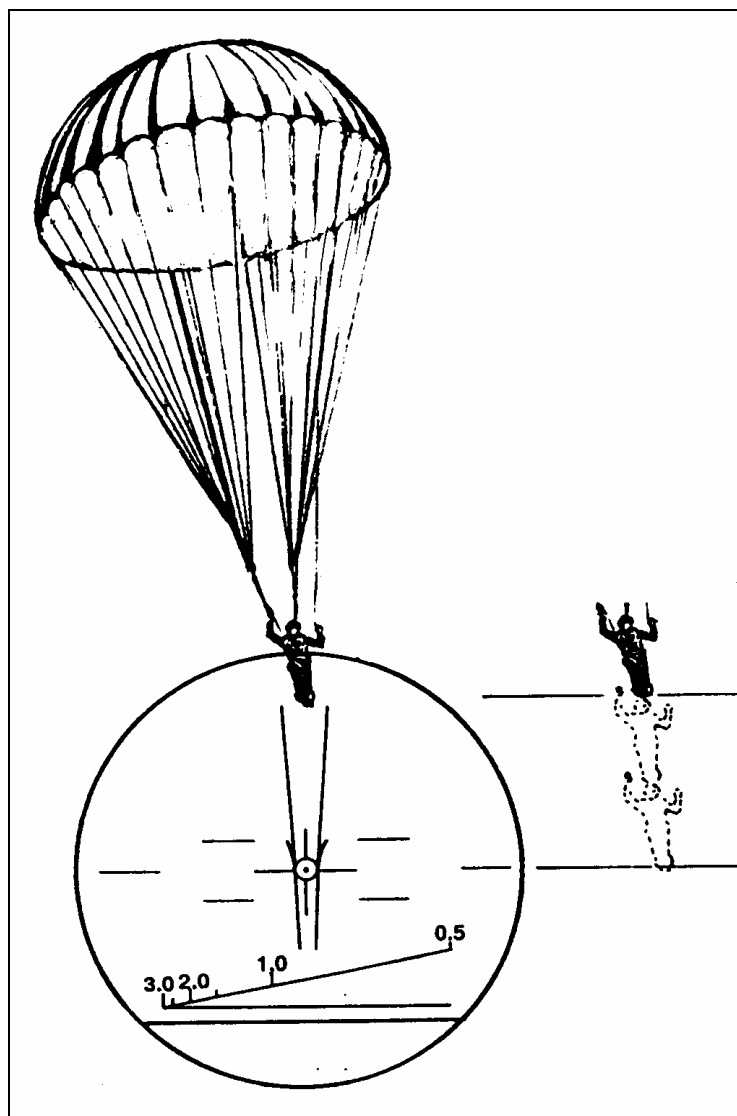

Figure 6-52. Engaging paratroopers.
e. The paratrooper's rapid rate of fall makes engaging him difficult (Figure 6-52). To do so, the gunner must—
- (1) Use the ISU or IBAS as the primary sight.
- (2) Use the coax machine gun at ranges under 900 meters.
- (3) Use the 25-mm (HEI-T) at ranges beyond 900 meters.
(4) Fire a burst with a lead of two man-heights beneath the dropping paratrooper. If he sights troop-carrying helicopters, he engages these rather than the parachuting or rappelling troops, because they present the greater danger.
(5) The helicopter is a better target than soldiers. Also, as to engaging personnel exiting or who have exited from damaged aircraft, the Geneva Convention says—